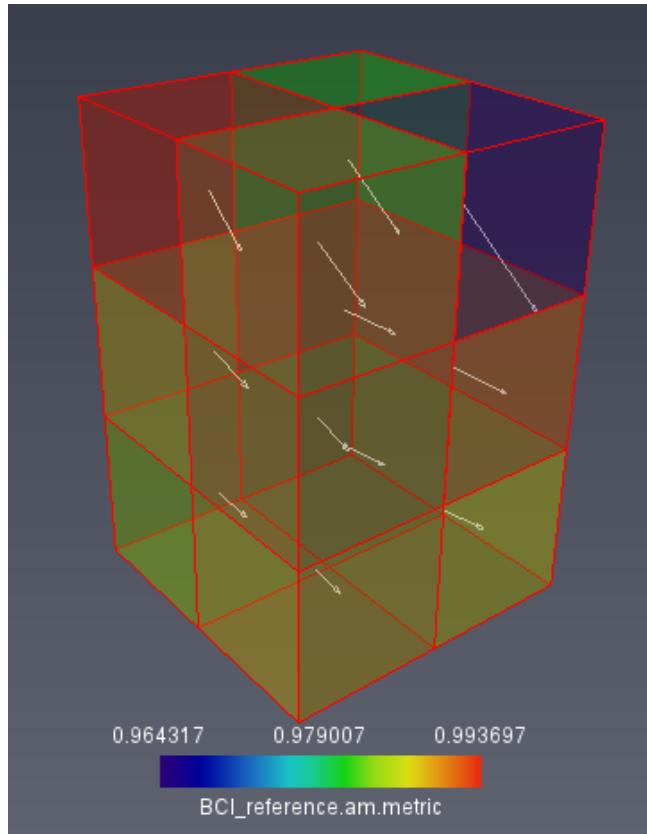

Figure 23.9: Metric Map and Displacement Vectors
- Visualize the displacement vectors by attaching a *Vector Field* module to *BCI_reference.disp*. Set the *Scale* port to 25 (open more options on *Scale* port line, and change *Max value* setting to 25), *Coloring* port to *Uniform* and select the white color from the port *Uniform color* (see Figure 23.9).